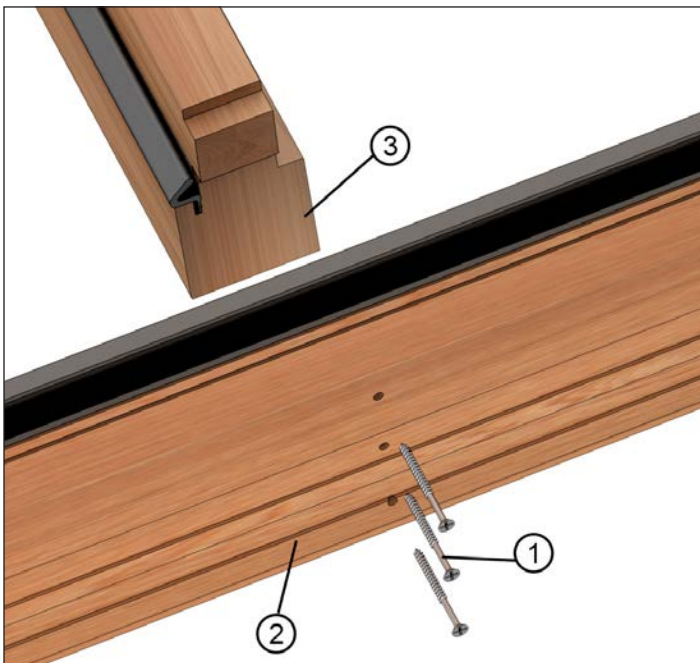

Figure 5
7. Fasten uni-frame with screws through the bottom of the sill and into the uniframe through the pre-drilled holes. Screw quantity varies dependent on the sill type and size. See figure 5.